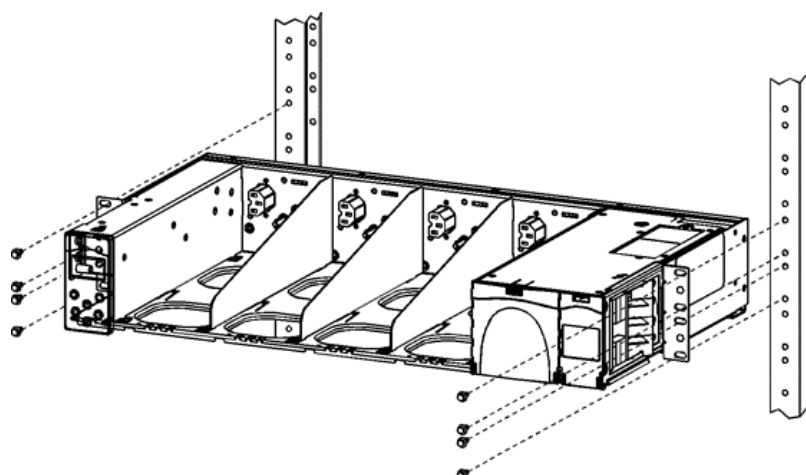

Figure 5-4: CPS6000 Frame Mounting
1.	Locate the 2 mounting brackets, one on each side of the CPS shelf; align the holes in the shelf-mounting bracket with the holes in the mounting frame. See Figure 5-4.